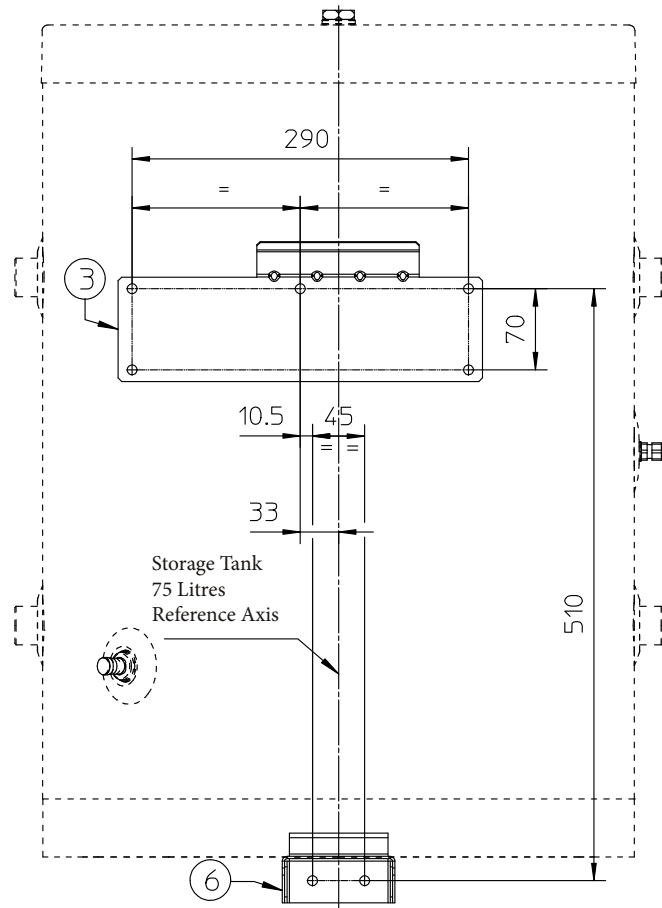

Fig. 3
- Fasten the lower support (6) in the position shown in the drawing (Fig. 3). Insert the screws (2) and the dowels (1), present inside the kit, into the specific holes. Insert the 2 screws (5) present inside the kit on the lower support.